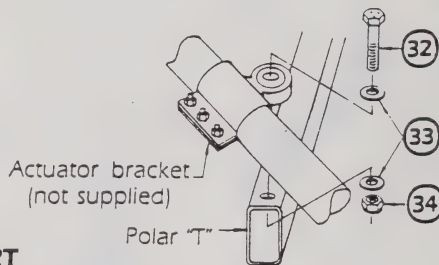

FIG 13
1. Attach the lower end of the actuator to the Polar "T" using one $\frac{1}{2}$ " x $2\frac{3}{4}$ " bolt, two $\frac{1}{2}$ " flatwashers, one $\frac{1}{2}$ " nyloc nut and a standard actuator clamp (not supplied). See Fig. 13.